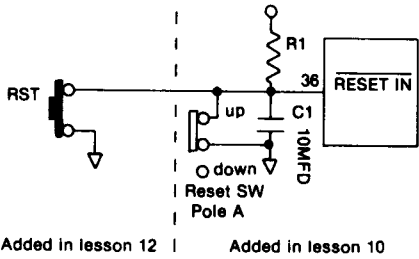

Figure 12-9
A simplified schematic of the Restart (RST) switch circuitry is shown in figure 12-9. With the Reset switch up, the RESET IN pin of the 8085 is at ground and the RST switch has no effect. When the Reset switch is down and the 8085 is running, pressing the RST switch places a ground (0) on the RESET IN pin and stops the 8085. Releasing the RST switch ungrounds the RESET IN pin. This has the same effect as putting pole A of the RESET switch down as described in lesson 10.